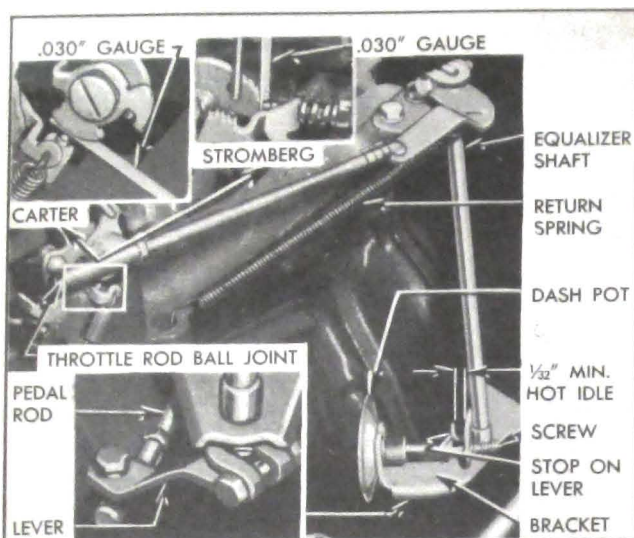

Figure 3-9—Throttle Linkage and Dash Pot Adjustment—
1. With engine hot and idling at 450 RPM, check clearance between the stop on lever at lower end of equalizer shaft and the shaft lower bracket. See figure 3-9. If clearance is less than
2. With engine shut off, check for full opening of throttle valve when accelerator pedal hits the floor mat, which must be in place. Full opening should be obtained when pedal strikes floor mat, rather than having the stop on throttle lever strike hard against the boss on throttle body. Adjust *accelerator pedal rod* at ball joint, if necessary to obtain full opening of throttle valve. Tighten lock nut. See figure 3-9.
4. Hold choke valve closed, insert a .030" feeler gauge between the adjustment or stop screw and the fast idle cam, then turn adjusting screw on dash pot operating lever until it just contacts the dash pot plunger button. See figure 3-9. *This gives a starting setting which may require slight alteration to obtain proper dash pot control.*